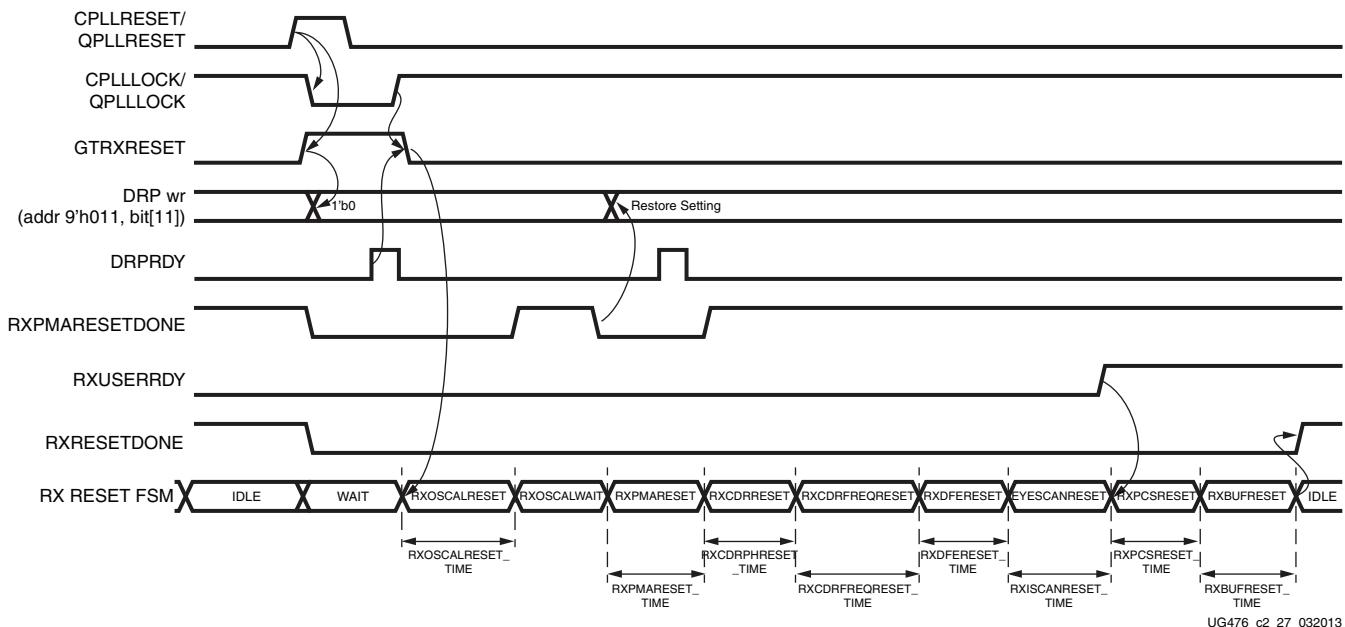

Figure 2-22: GTH Receiver after FPGA Configuration
To issue a GTRXRESET upon configuration, the steps in Figure 2-22 should be performed.
Notes relevant to Figure 2-22:
2. The sequence of events in Figure 2-22 is not drawn to scale.